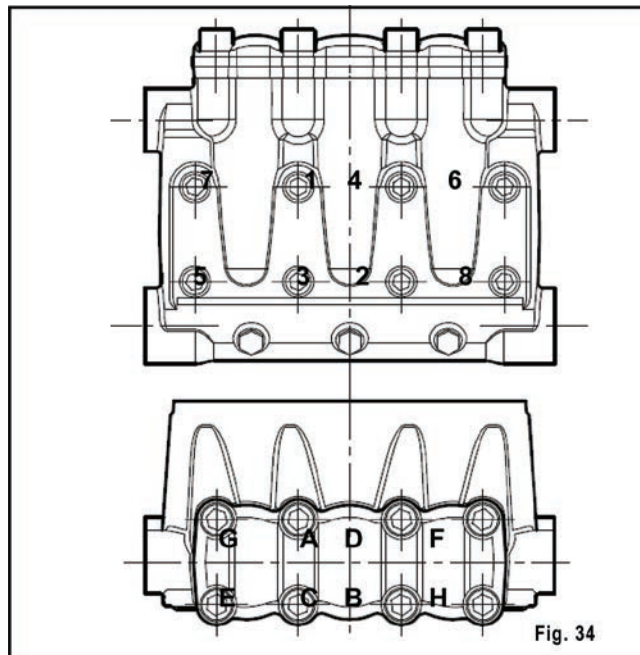

Fig. 34
** The head fixing screws (exploded position 47) must be tightened with a torque wrench respecting the sequence shown in the diagram in fig. 34.
*** The valve cover fixing screws (exploded position 45) must be tightened with a torque wrench respecting the order shown in the diagram in fig. 34.